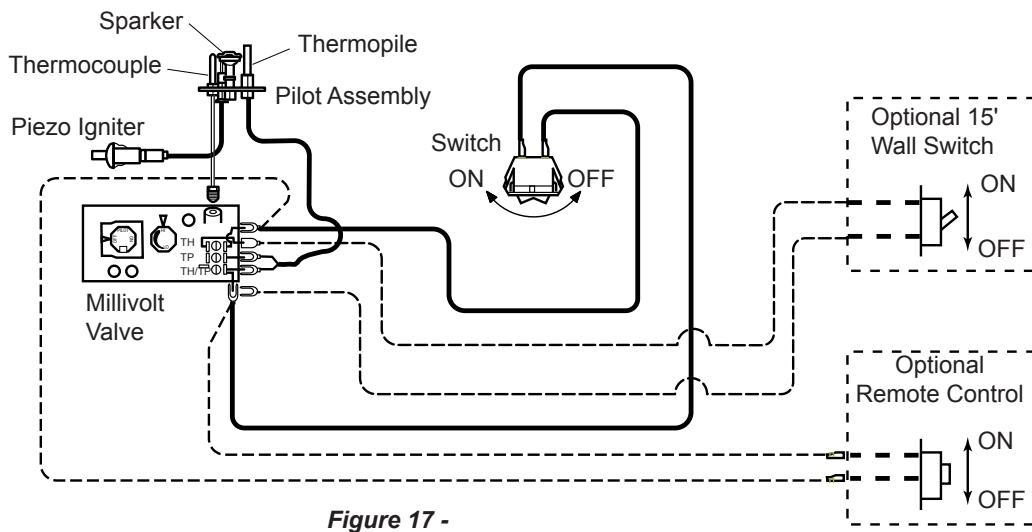

Figure 17 -
A remote wall switch and up to fifteen (15) feet of 18 Ga. wire may be used with this appliance. Attach the wall switch in a junction box at the desired location on the wall. *Figure 17*